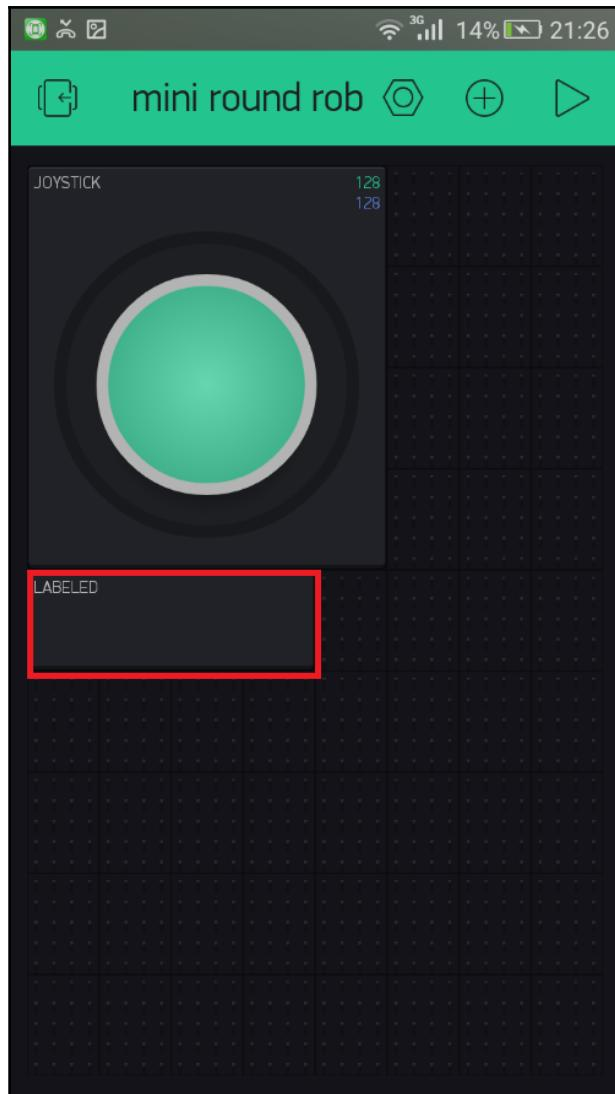

Figure 3.7: The Labeled Value widget placed on the canvas
3. A **Labeled Value** widget will add to the canvas with a default name, **LABLED**. Now, tap the **Labeled Value** widget to change its settings (*Figure 3.7*):